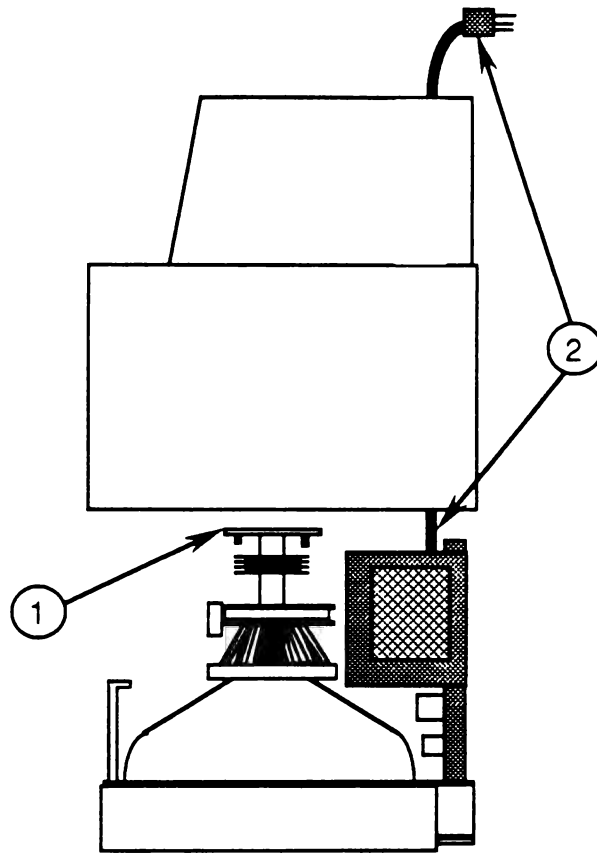

FIGURE 10
5. Carefully pull the rear cover up until it clears the CRT board (Figure 10, #1).
6. Pull the AC power cord (Figure 10, #2) through the opening in the rear cover. Set the rear cover aside.
2. Guide the AC power cord (Figure 10, #2) through the opening in the cover as you lower the cover onto the monitor.